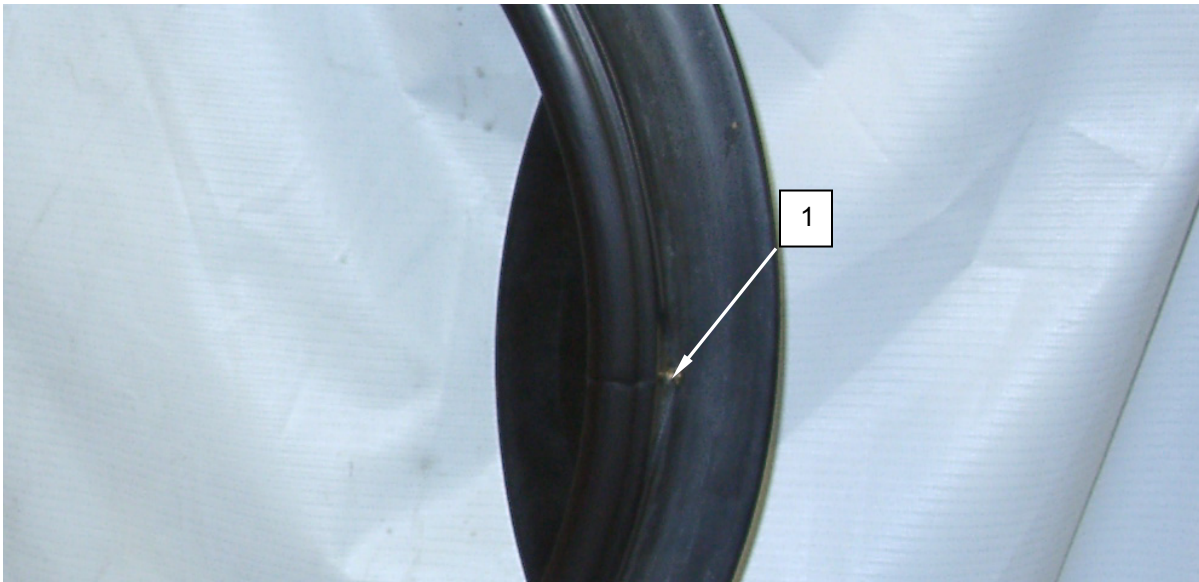

Figure 1. Adjust the Dryer Loading Door Catch Assembly.
3. Adjust door strike screw (**Figure 1, Item 1**) in or out as required.